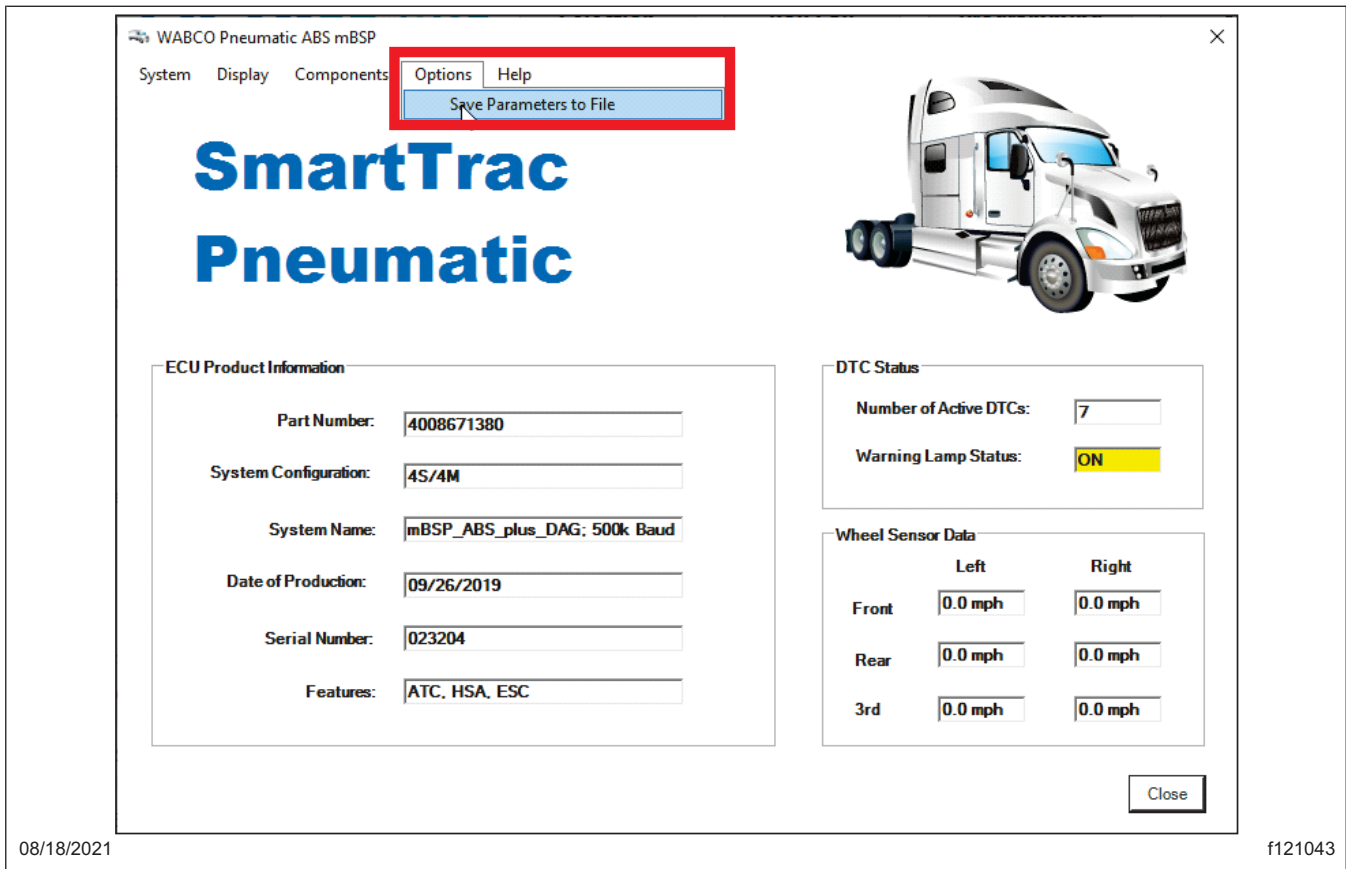

Fig. 33, Choosing the Install Location
20. Go to the 'Option" menu and select 'Save Parameters to File.' See Fig. 33.